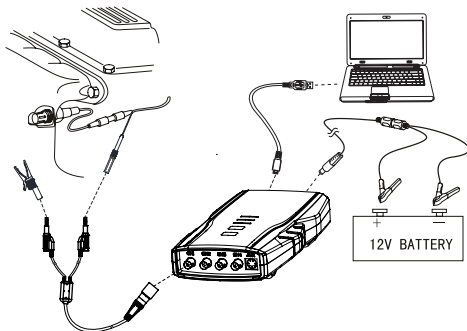

Fig. 11: Equipment connection
1. Connect equipment according to Fig.11, switch on power supply.